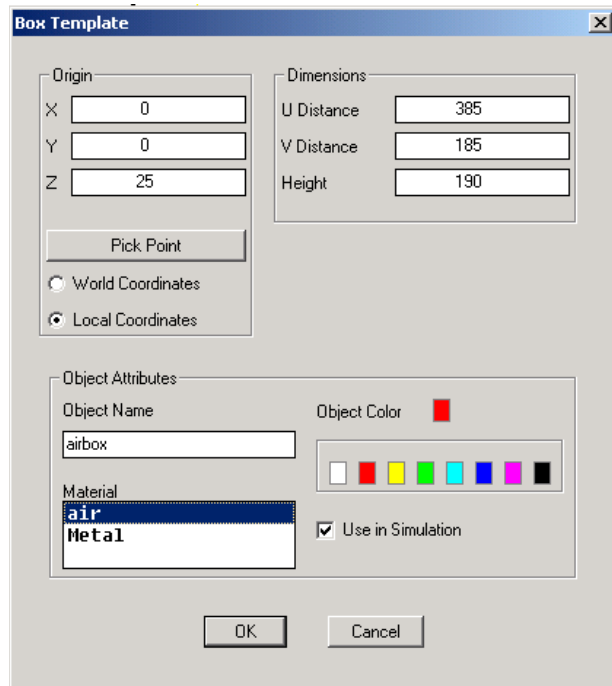

Figure 19 Box Template for the Air Box
- 5 Refer to the dialog box in Figure 19, and use the displayed dimensions and other data for your box. This object is named *airbox*.